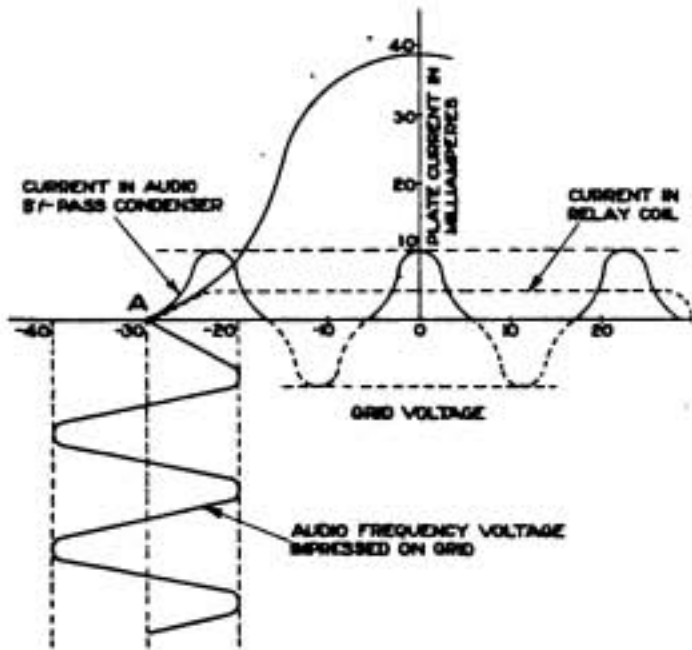

Fig. 2. Tube Characteristic showing principle of operation of Relay Recorder.
4. *Principle of Operation.* The principle of operation is illustrated in Fig. 2. By means of the variable filament battery *D*, the grid voltage is adjusted to approximately 30 volts, at which value the plate current is zero, as shown at *A*. The incoming audio-frequency voltage impressed on the grid varies the grid potential, for example, from - 30 to - 20 volts. The 10 volts decrease from - 30 to - 20 causes an increase, for example, from 0 to 10 milliamperes, while the increase from - 30 to - 40 volts, is not